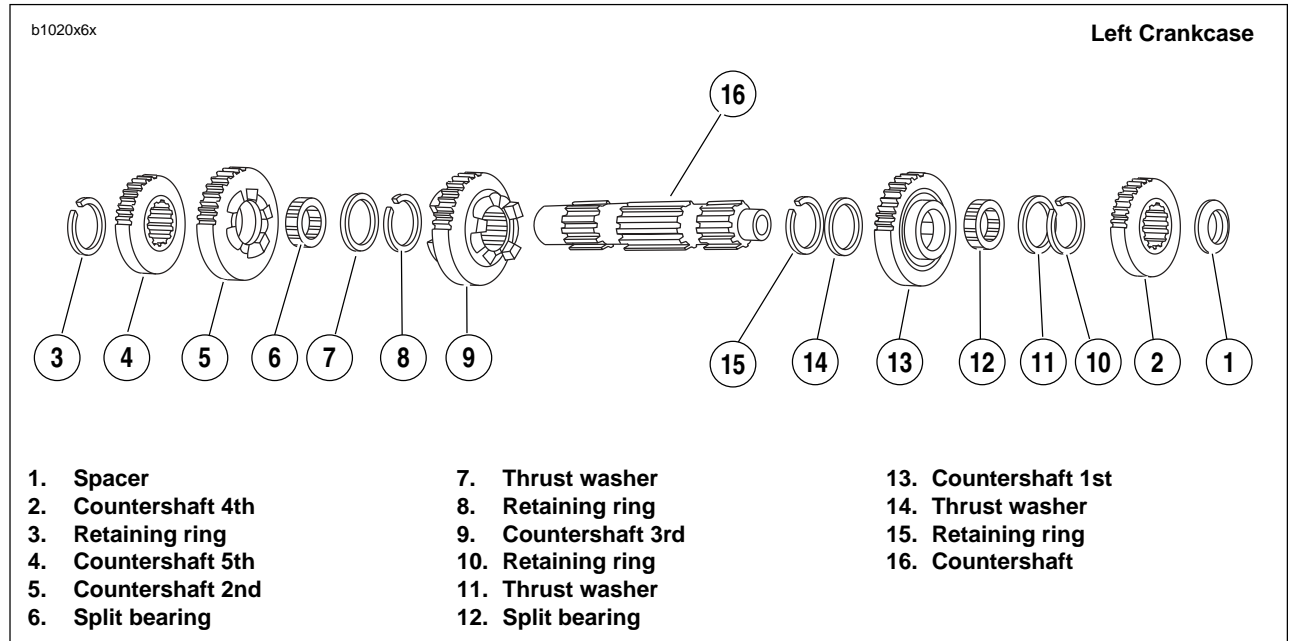

Figure 6-59. Transmission Countershaft Assembly Once Removed from Left Crankcase/Disassembly
1. See Figure 6-59. Remove spacer (1) and countershaft 4th gear (2) from the end of the of the countershaft with internal threads.
2. Using RETAINING RING PLIERS (Part No. J-5586), remove and discard retaining ring (3) next to countershaft 5th gear (4).
- a. Slide countershaft 5th (4), and countershaft 2nd (5) off end of countershaft.
- b. Remove split bearing (6) that was under countershaft 2nd gear (5) and thrust washer (7).
- c. Remove retaining ring (8) on the countershaft and slide countershaft 3rd gear (9) off free end of countershaft.
3. Expand retaining ring (10) located next to countershaft 1st gear (11). Remove retaining ring (10) and thrust washer (11).
- a. Slide countershaft 1st gear (13) off end of shaft.
- b. Remove split bearing (12).
4. Remove thrust washer (14). Expand remaining retaining ring (15) and slide off countershaft.